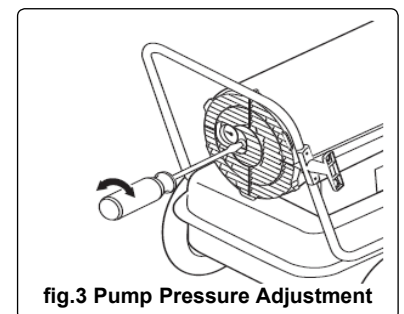

fig.3 Pump Pressure Adjustment
- 5.1.5 The pump pressure should be +/- 10% of the pressure stated in the specification table above, if the unit is running outside of this tolerance, adjust the pressure as shown in fig.3.